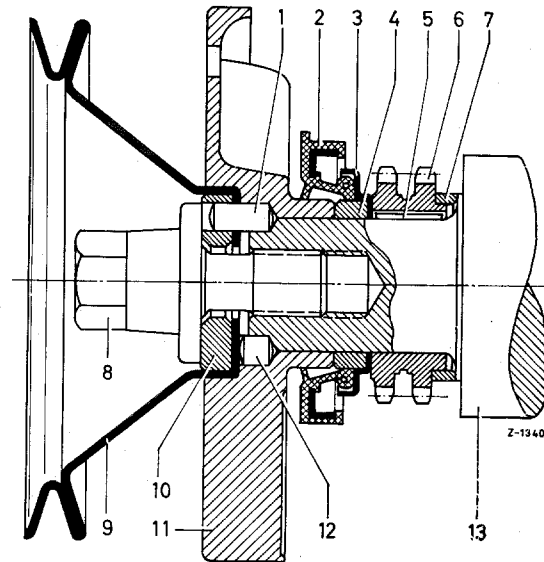

Figure 03-2/1
1. Unscrew the collar screw (8) for mounting the pulley (9) and the counterweight (11) on the crankshaft. Remove the pulley (9), then use puller part No. 000 589 17 33 to pull the counterweight (11) from the crankshaft (see Figure 03-2/1).
2. Fit the counterweight (11) onto the pins of the crankshaft (13) and turn the counterweight in such a way that the bores for the cylindrical pins (1) and (12) coincide. Then knock in the two cylindrical pins (see Figure 03-2/1).
3. Fit the pulley (9) and tighten the mounted parts by the collar screw (8) with a torque of 18 mkg. (see Figure 03-2/1).